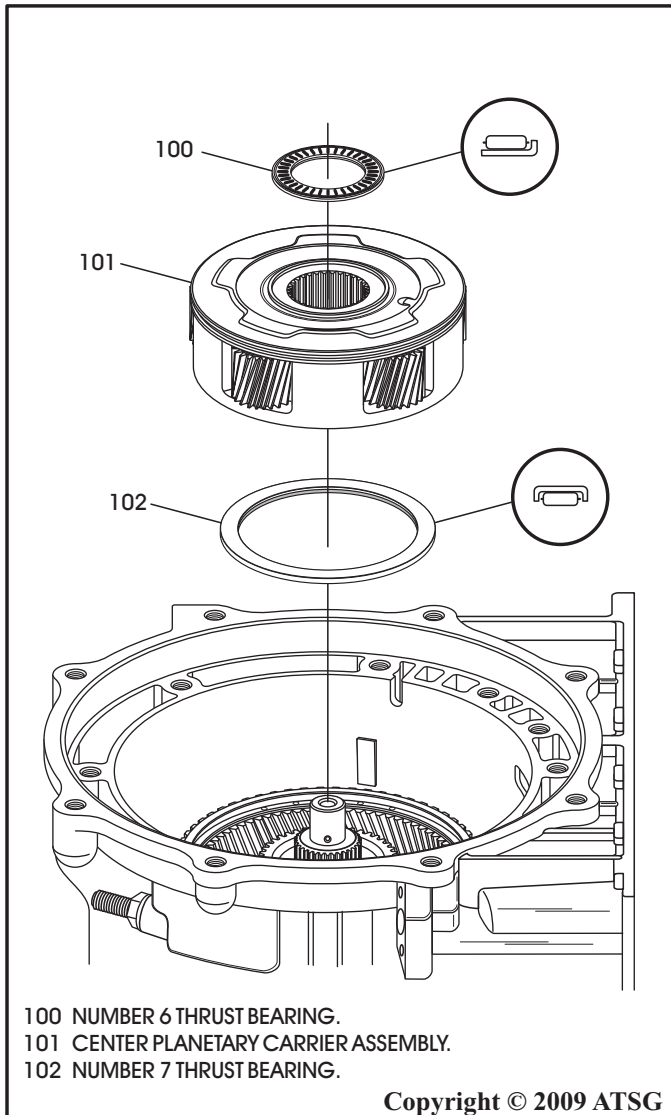

Figure 222
62. Install the number 6 thrust bearing on the front side of the center planetary carrier assembly, as shown in Figure 222, with the needles facing up and retain with Trans-Jel®.
63. Install the completed center planetary carrier assembly, as shown in Figure 222, by rotating into position until fully seated.